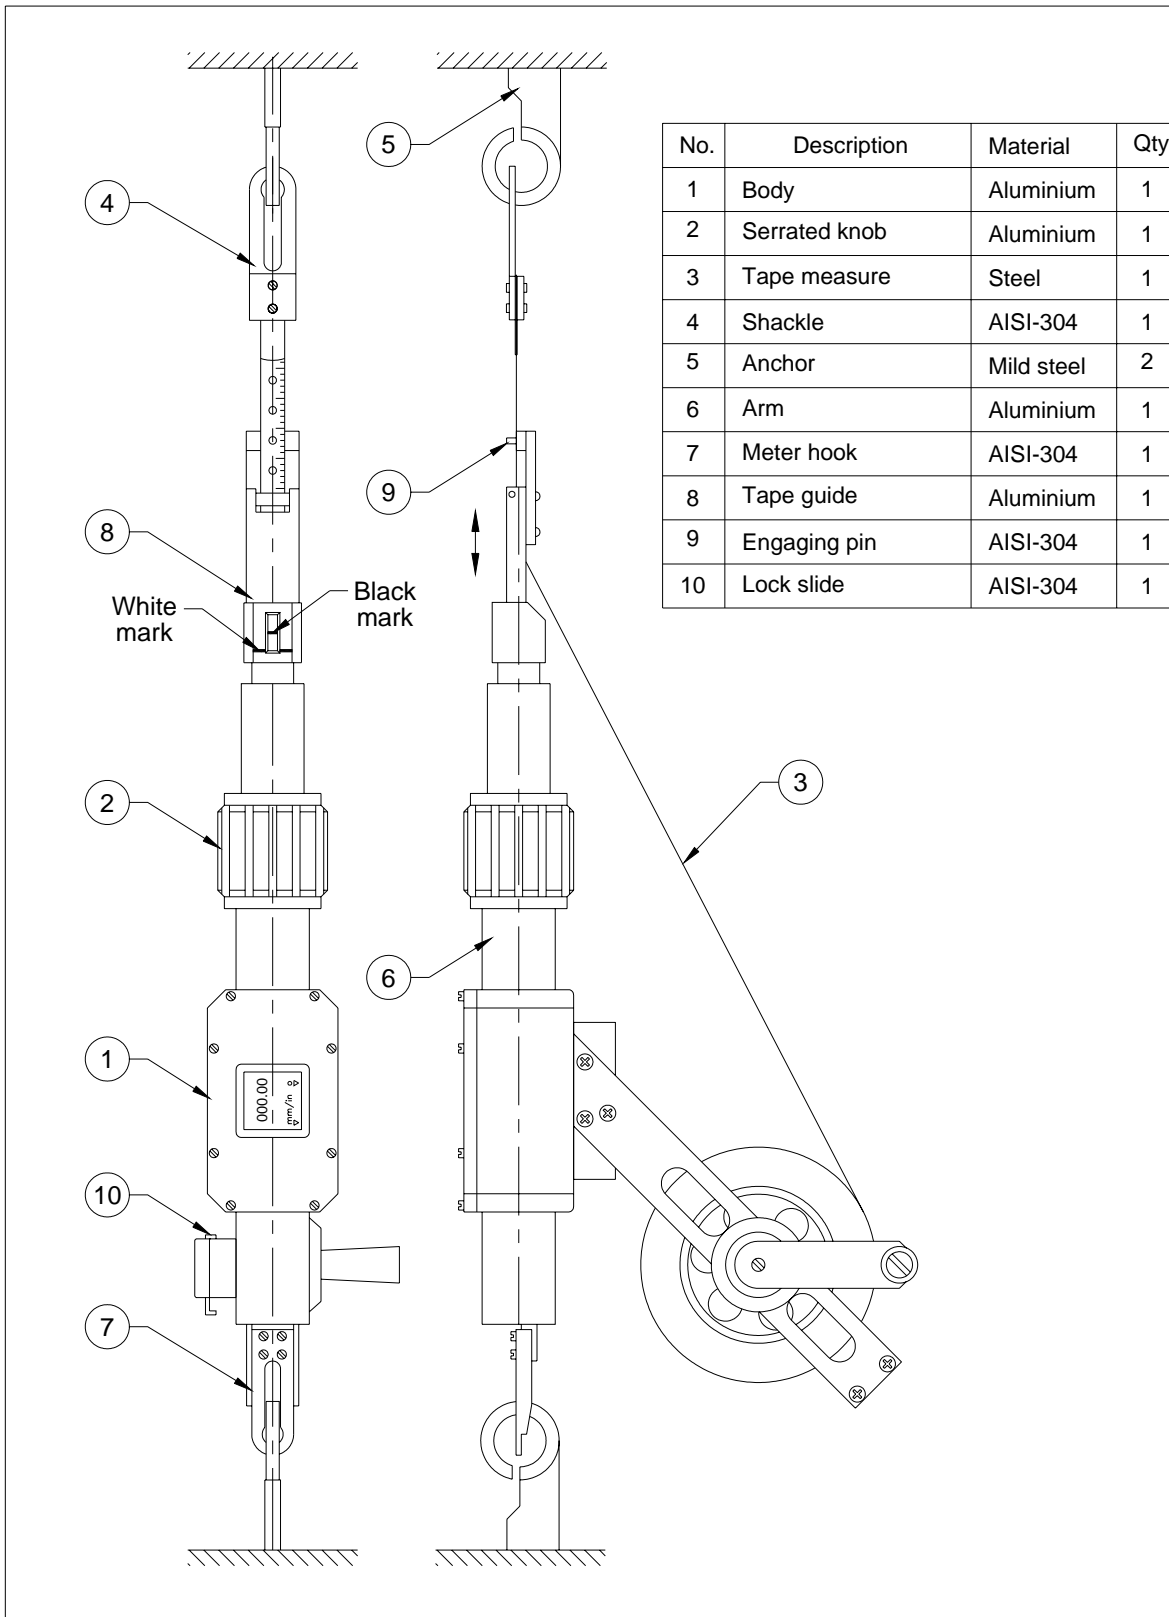

Figure 1 – Tape Extensometer Components
The tape extensometer consists of a steel tape, a tape tensioning apparatus with a tension spring and tension adjustment knob, a small digital readout and two shackles that allow the tape to be stretched between two anchor points (Figure 1). The built-in tension spring and indexing mark allow the tape to be tensioned at a constant value for each measurement. This permits the measurement to be made with high repeatability and a minimum amount of sag in a horizontal, inclined or vertical direction. *Note:* The item numbers that accompany the descriptions in the following pages refer to the numbered components in Figure 1.
To take displacement readings, the stainless attachment shackle (4) at the end of the steel tape, is hooked to an anchor point (5) grouted in the structure or the excavation. The tape is then allowed to unreel until the shackle on the other end (7) can be hooked to the second anchor point. The slack is taken out of the tape and coarse tension adjustment is accomplished by inserting the engaging a pin (9) into one of the punched holes in the steel tape. The holes are spaced at 12.5 mm (½") intervals along the entire length of the tape. The fine tension adjustment is achieved by rotating a serrated aluminum adjustment knob (2) that shortens the overall length of the device until two index marks on the extensometer coincide (white mark and black mark in Figure 1). At this point the tape is held at a standard tension by means of a spring inside the extensometer housing. A precision digital readout measures this fine adjustment reading while the tape is held under a constant, repeatable force. The difference from a reading that was recorded earlier gives the change in distance between the two anchor points.